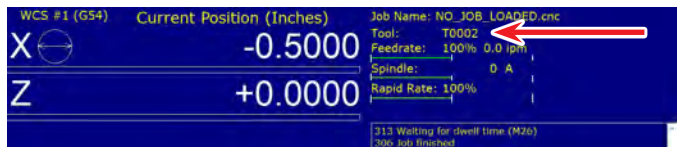

FIGURE 11
6. As stated earlier in these instructions, I like to tell the control which tool I am currently using. Click on MDI F3. Enter the tool that you are using (in our case "T0202"), Click on Cycle Start. The control screen should show the tool that you entered (see Figure 11).